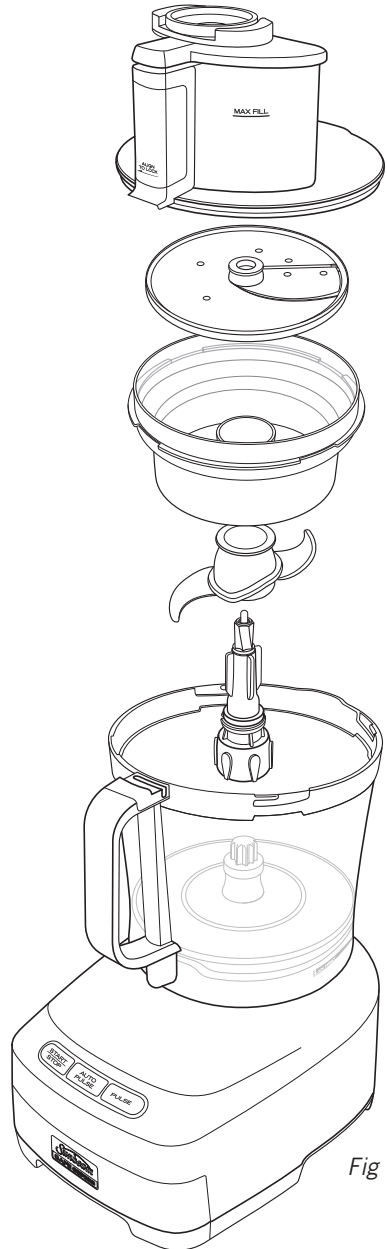

Fig 14
**Processing bowl storage**, see figure 14.